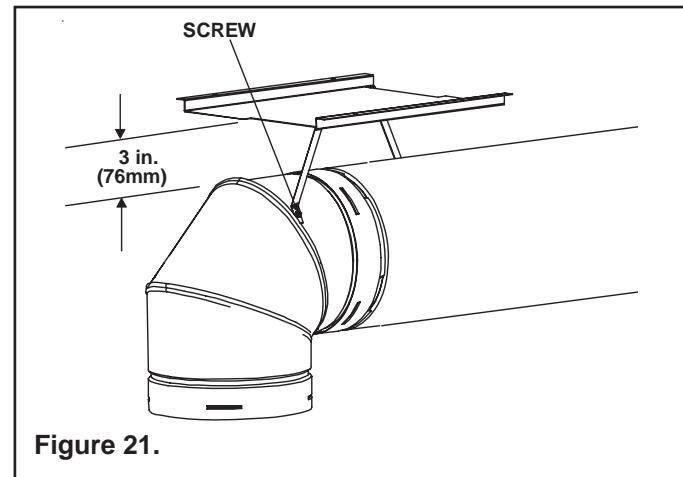

Figure 21.
- If the combustible materials are not in place at the time of install the elbow heat shield may be screwed to the exhaust pipe (see Figure 21). Cut the tabs as shown and bend down. Secure the heat shield to the pipe maintaining 3" to 4" between the pipe and shield.